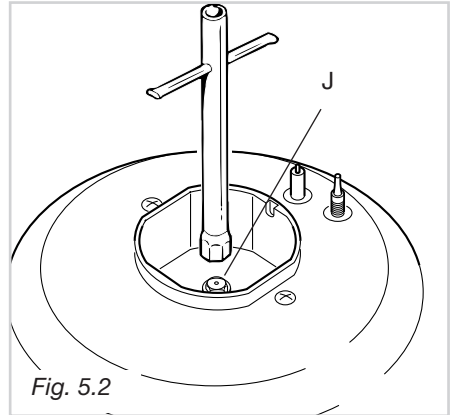

Fig. 5.2
- ✓ Using a wrench substitute the injectors **J** (Fig. 5.2 - 5.3) with those ones suitable for the type of gas for which it is to be used.